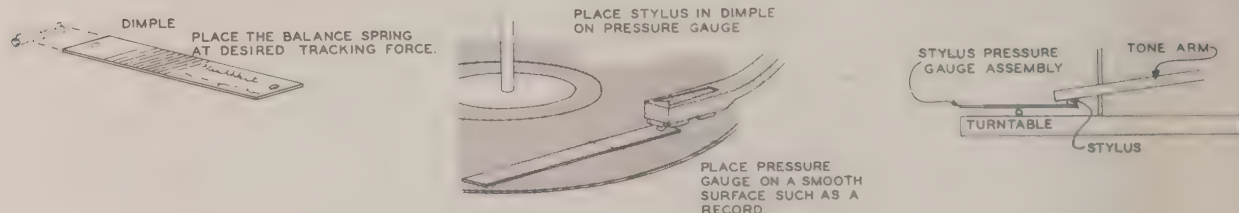

Figure 15
- () Assemble the stylus pressure gauge as shown in Figure 15.
- () Set the sliding balance point of the gauge to the weight as specified for the cartridge being used. See Figure 15.
- () Place the stylus in the dimple near the end of the gauge. See Figure 15.
- () Adjust the stylus pressure adjustment nut under the tone arm until the gauge is balanced in the horizontal position. See Figure 15. The correct pressure will now be applied to the stylus during record play.